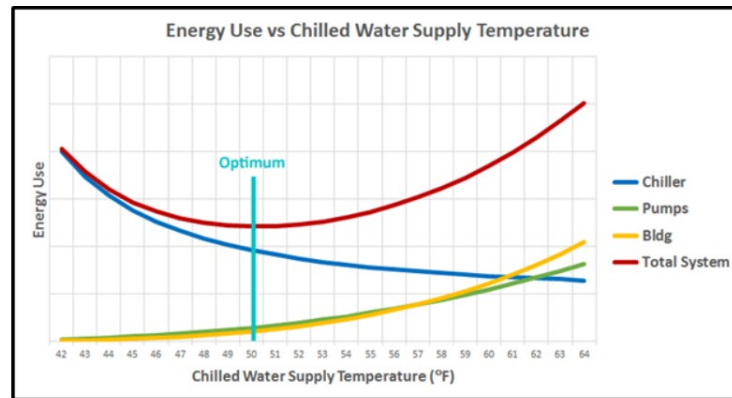

Figure 1. Energy use vs. chilled water supply temperature
- An “optimization” measure. See Figure 1.